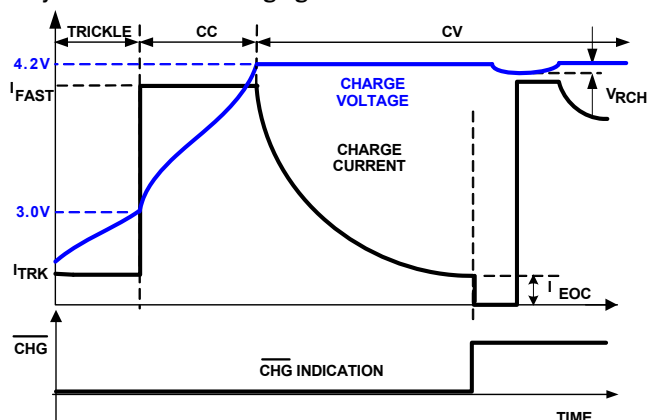

FIGURE 29. TYPICAL CHARGING CYCLE FOR $CONT = L$
The charger function is similar to other Li-ion battery chargers, i.e., it charges the battery at a constant current (CC) or a constant voltage (CV) depending on the battery terminal voltage. The constant current I_{FAST} is set by the external resistor R_{IREF} . Depending on the combination of the AC/USB and the MODE pin status, the actual charge current may be reduced by the input current limit. When the battery voltage reaches the final voltage of 4.2V, the charger enters the CV mode and regulates the battery voltage at 4.2V to fully charge the battery without the risk of overcharging. Upon reaching an end-of-charge (EOC) current, the $\overline{CHG}$ will turn to high impedance to indicate a charge complete state and if $CONT$ is low, Q2 will be turned off to terminate charging. Figure 29 shows the typical charge profile with the EOC recharge events when $CONT$ is low.